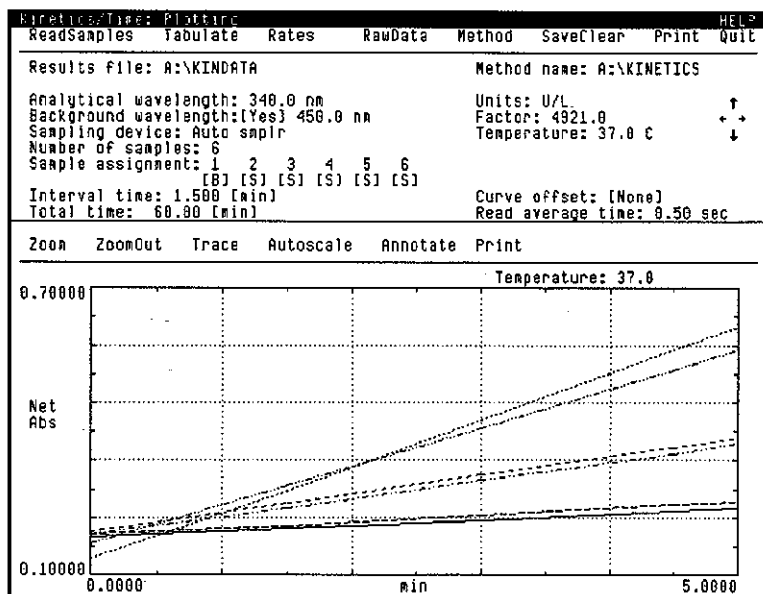

Figure 7-3. Plotting Window
8. When all the samples input for "number of samples" have been analyzed, the window shown in step 4 is removed. The data collection window can be changed from Plotting to Tabulation by clicking on <Tabulate>, or from Tabulation to Plotting by clicking on <Plot>. A typical Plotting window is shown in Figure 7-3. A typical Tabulation window is shown in Figure 7-4.